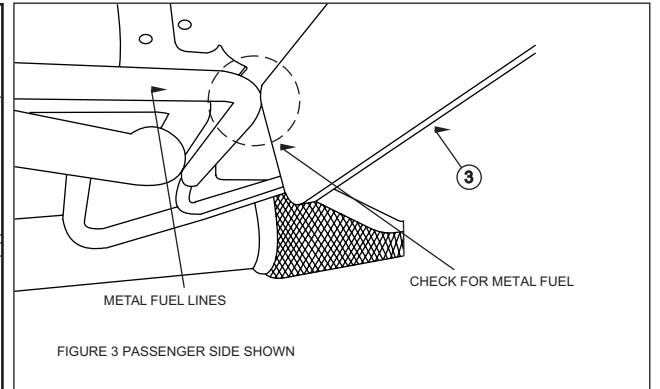
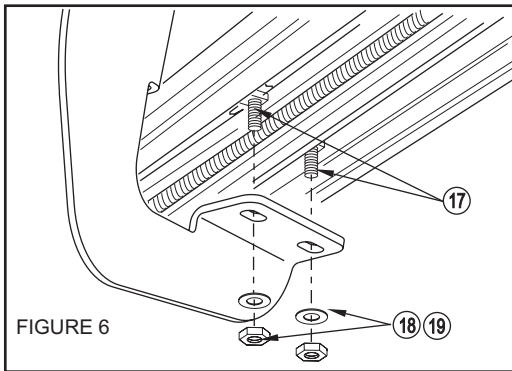

FIGURE 3 PASSENGER SIDE SHOWN
FIGURE 6
STEP 9. Attach Step board to brackets as shown. **SEE FIGURE 6.** Make sure step board and brackets are properly aligned and tighten fasteners. Recommended torque values are 64 Ft. Lbs. for 1/2" fasteners, 26 Ft. Lbs. for 3/8" fasteners, and 10 Ft. Lbs. for 5/16" square head fasteners. Repeat installation for passenger side. Make sure that the front passenger bracket does not interfere with the metal fuel line. **SEE FIGURE 3.**